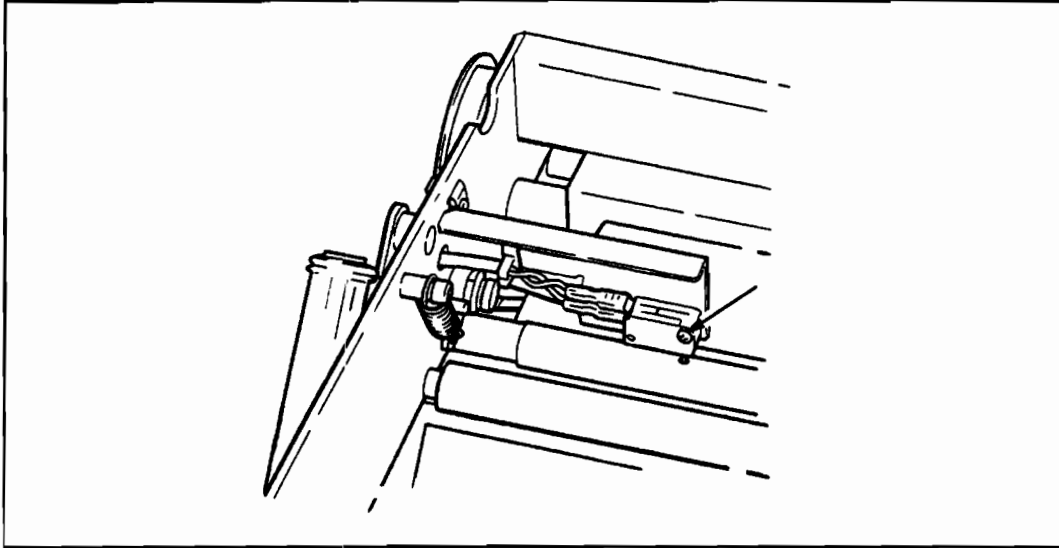

Figure 6-65. SSW4 Removal
3. Disconnect the switch wires (black to top connector, blue to middle connector). See Figure 6-65.